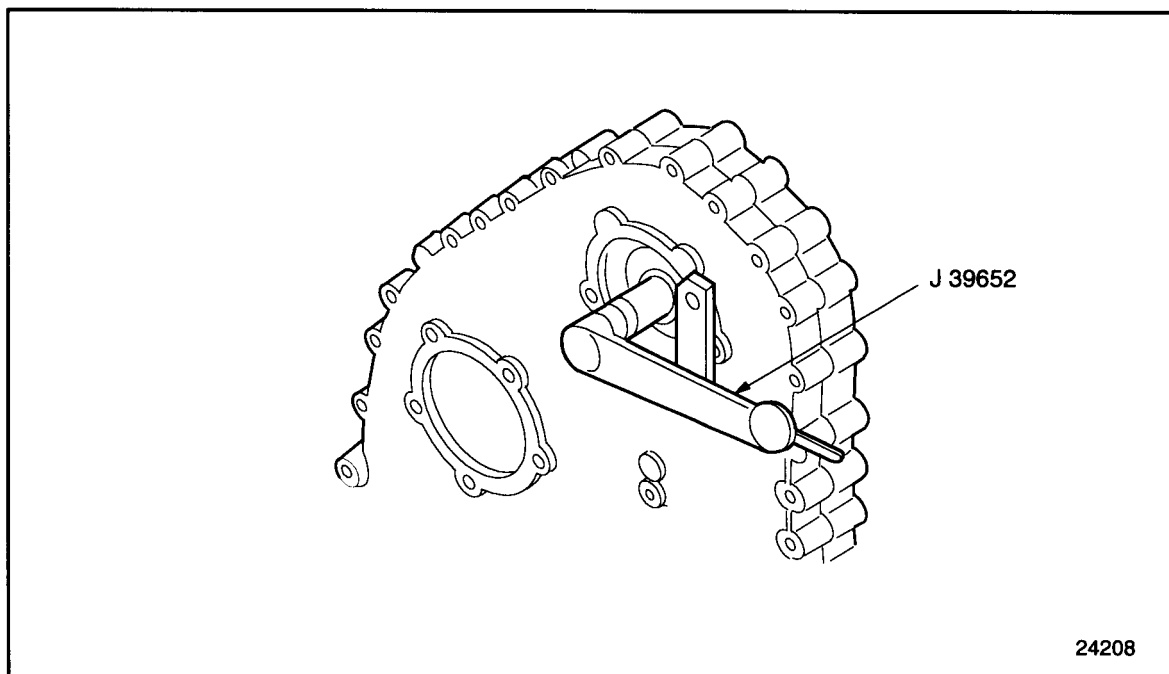

Figure 1-310 Camshaft Drive Gear-to-Camshaft Bolt Tightening
23. Using a 27 mm impact socket and suitable torque wrench, torque the camshaft drive gear-to-camshaft bolt to 75 N·m (55 lb·ft). See Figure 1-310.